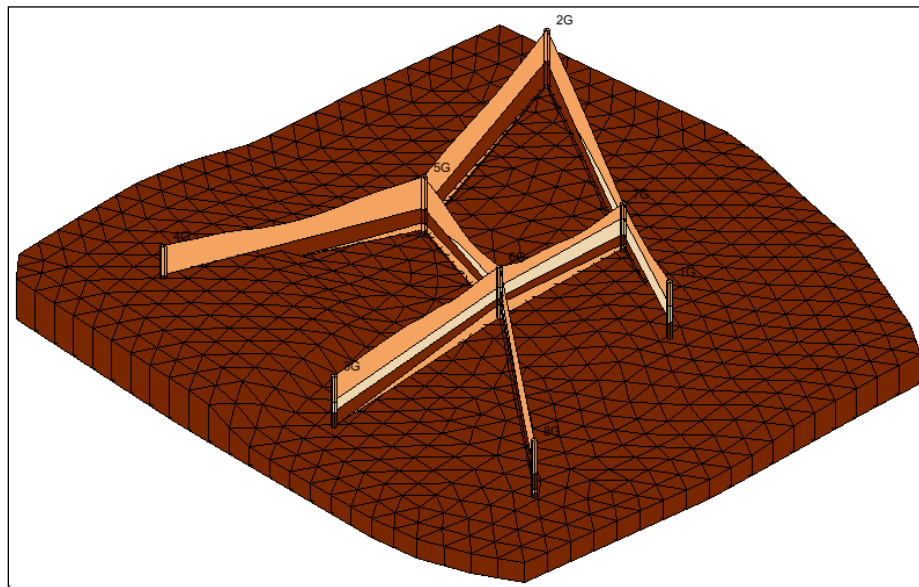

Figure 10 Previous Silty_Clay 1 solid
3. Turn on the corresponding solid (“ Silty_Clay 1”) in the “ solids (2)” folder. Notice the area that the solid covers (Figure 10).
4. Turn on and off (“ Silty_Clay 1”) in the “ solids (2)” folder until comfortable with the difference between the one from “ solids (2)” and the one from “ solids (3)”.